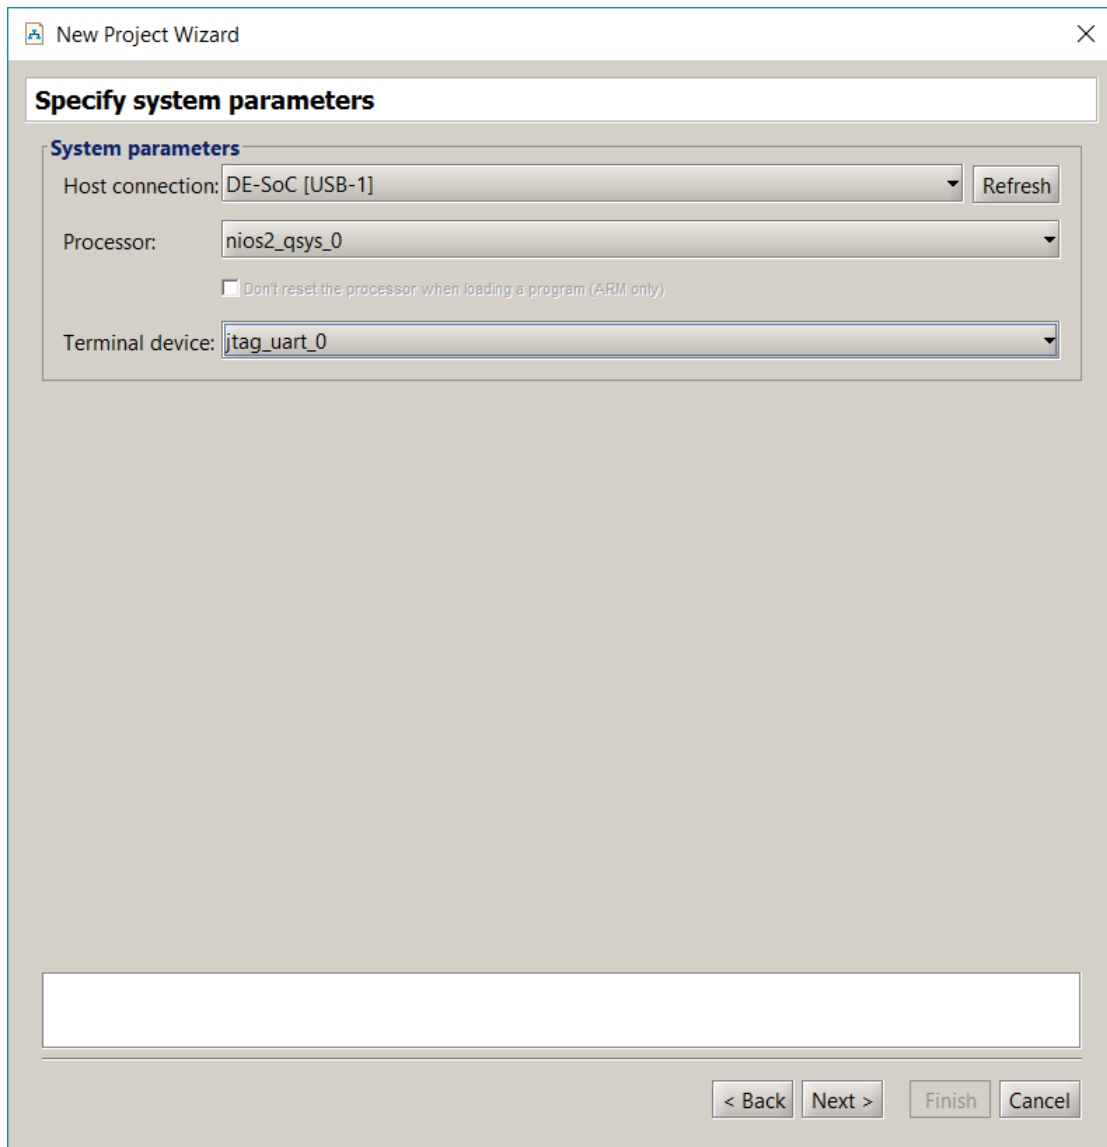

Figure 30. Specify the system parameters.
7. In the window in Figure 30, ensure that the Host Connection is set corresponding to your target board. Here, we are using the DE1-SoC board, and so have set it to *DE-SoC*, the Processor is set to *nios2_qsys_0* and the Terminal Device is set to *jtag_uart_0*. Click Next.